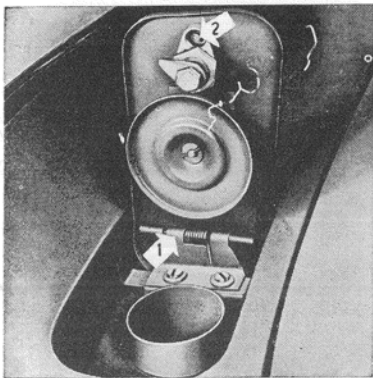

Fig. 36. Petrol (gasoline) filler cap
5. Petrol (gasoline) filler cap	See Fig. 36